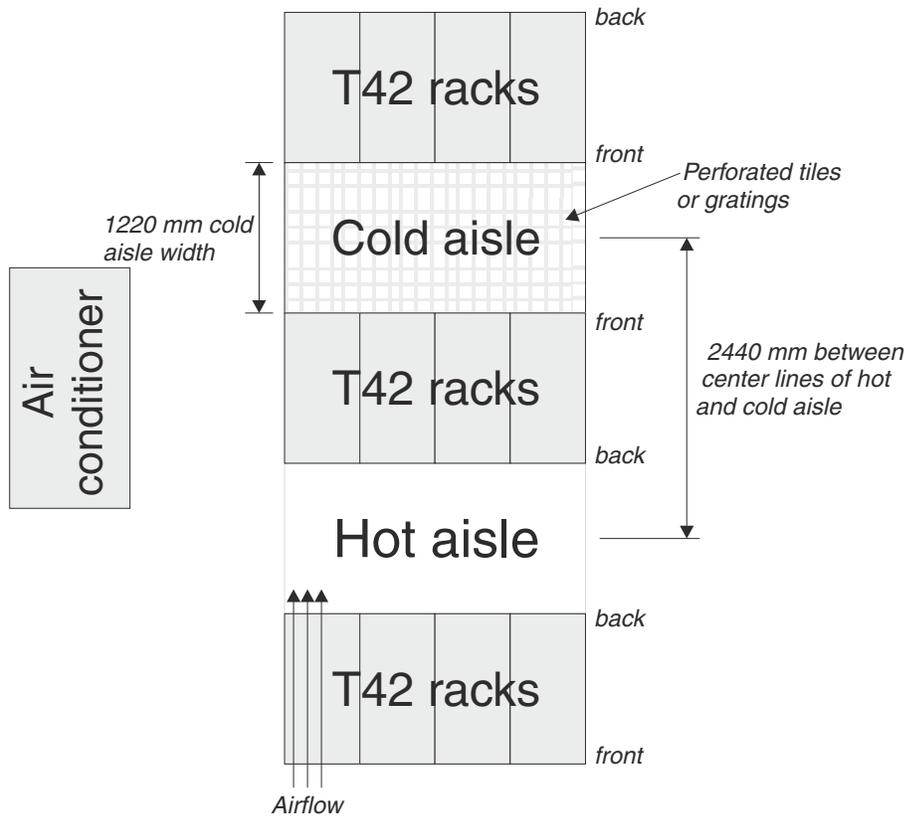

Figure 5. Example of Cold Aisle/Hot Aisle Rack Configuration
- Air enters at the front of the rack and leaves at the back. To prevent the air that is leaving the rack from entering the intake of another piece of equipment, racks must be positioned in alternate rows, back-to-back and front-to-front. This arrangement is known as “Cold Aisle / Hot Aisle” and is shown in Figure 5 on page 20.